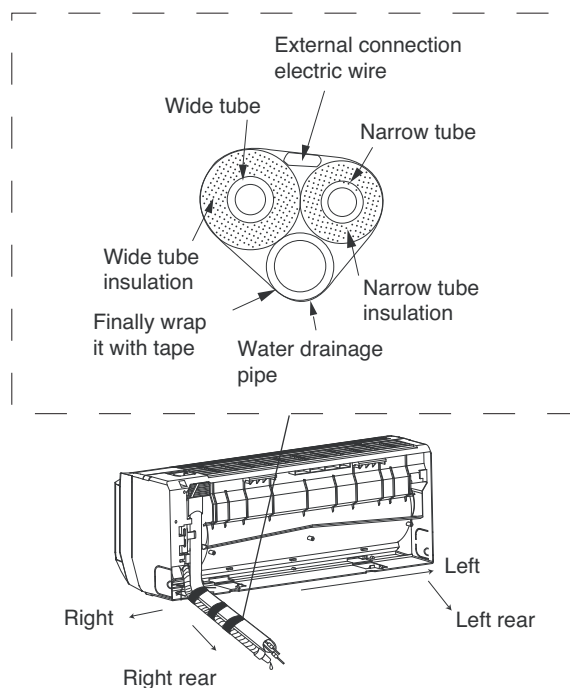

Fig. 21
- (2) Take out the tubing from body case, wrap the tubing, electric wire and water pipe (if local codes allow) with tape and push them through the tubing hole. (Fig. 21)
(After performing a leak test on the connecting part, insulate it with tubing insulation. (Fig. 21)